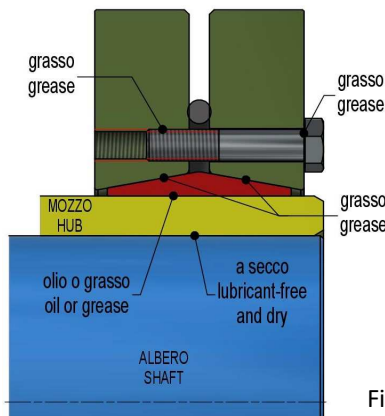
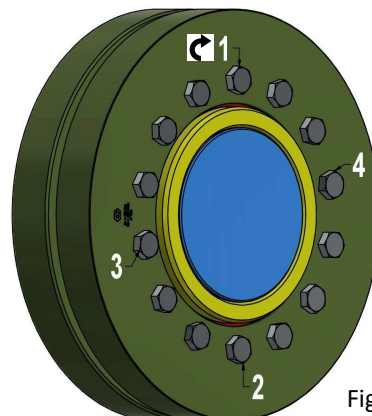

Fig. 2. Lubrication.
Fig. 3. Pre-tightening
-  Do not remove the grease from screws and conical surfaces (fig. 2).
1. Clean hub OD and Shrink Disc bore. For ease of installation, lightly lubricate hub OD before assembling Shrink Disc onto hub (fig. 2).
2. Carefully solvent clean and dry shaft and hub bore from any lubricant (fig. 2) prior to mounting hub onto shaft. This step is critical, as any lubricant on the shaft/hub bore interface will greatly reduce the capacity of the Shrink Disc connection.
3. Move the Shrink Disc onto the hub, then move the hub onto the shaft until the required position is achieved. **The shaft must support completely the tolerated section of hub bore (fig. 2). Hand-tighten three or four evenly spaced screws (fig. 3) and make sure that outer rings are parallel;** then hand-tighten remaining screws. At the end of this stage, a light connection is achieved. Hub will not move axially respect to shaft during next tightening steps.